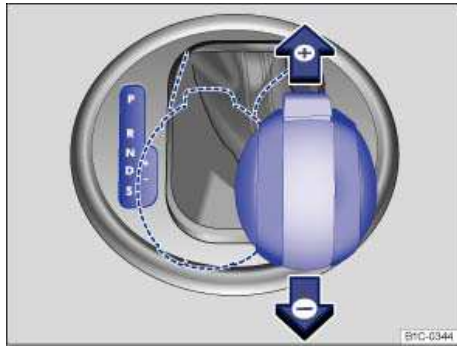

Fig. 119 Selector lever in Tiptronic position.
- Briefly push the selector lever forward (+) to upshift into a higher gear or backward (-) to downshift into a lower gear ⇒ fig. 119.